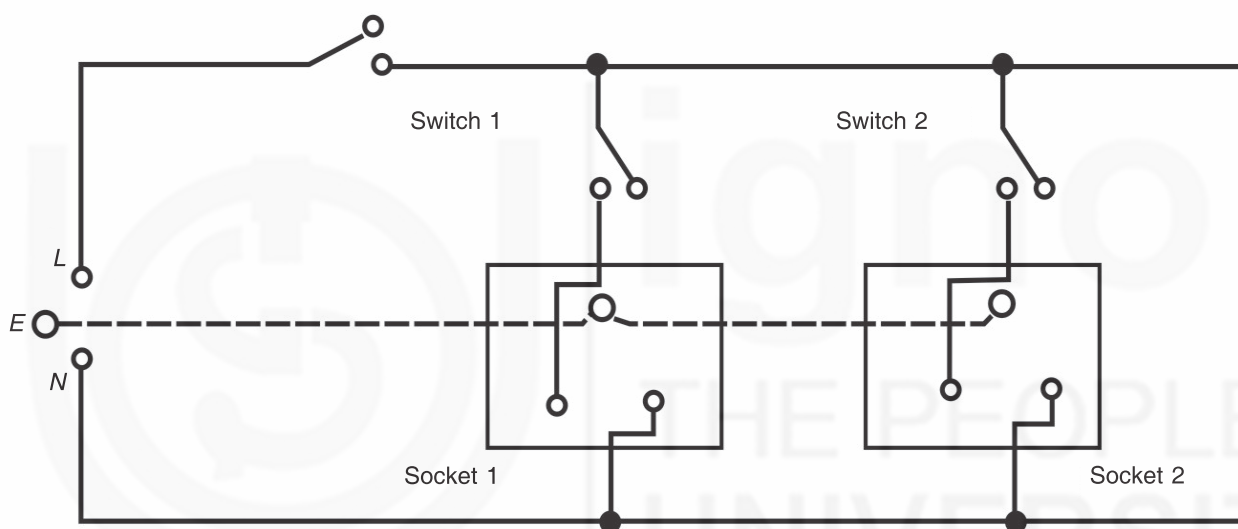
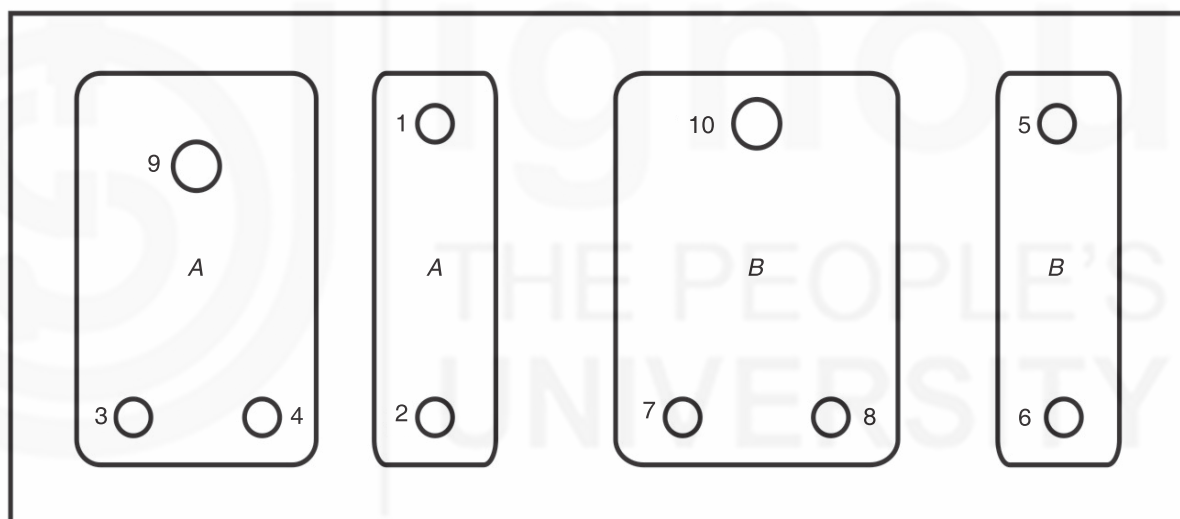

Fig. 9.5: Circuit diagram of an extension board.
Fig. 9.7: Labelled circuit diagram of the extension board (back view).
Now suppose we wish to fabricate an extension board for plugging two instruments such as an oscilloscope and a power supply. For such an extension board, the circuit diagram is shown in Fig. 9.5. Note that such an extension board has 2 two-in-one sockets with independent switches.
2. Now, keep the top cover of extension board, on which you have fixed sockets and switches, upside down. You will see different electrical contact terminals of sockets and switches (Fig. 9.7). To enable you to
3. Keep the labeled/numbered diagram shown in Fig. 9.7 before you. This diagram is the labelled version of the circuit diagram of the extension board (Fig. 9.5).
Note that all the terminals of sockets and switches in Fig. 9.7 are numbered. **You just have to join these numbered terminals as per the instructions given below** using the single core wire of gauge 22. You will have to cut this wire into number of pieces of appropriate length. Now, connect different terminals as described below: